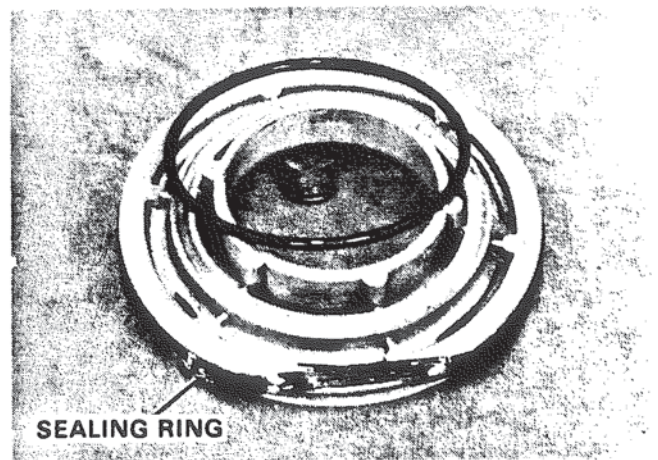

Figure 53. Installing Clutch Sealing Ring.
8. Assemble the clutch spring bearing ring and a lubricated clutch sealing ring on the forward clutch piston. Figure 53. Inspect the inside diameter of the forward clutch piston having contact with the sealing ring; remove all burrs or scratches and lubricate before assembly.